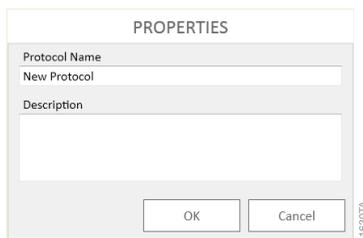

Figure 18. New Protocol name prompt from the GloMax® Discover software.
2. You will be prompted to name the protocol. You also may provide a description if desired (Figure 18).